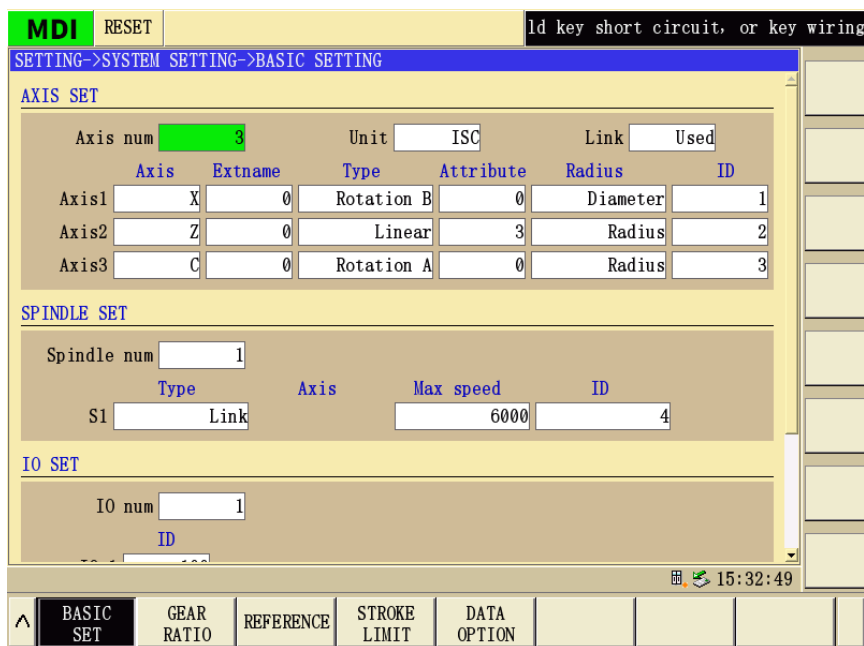

Fig. 1-34
2. Enter the debugging wizard interface, and press on the editing panel in  →  turn to enter the setting page, as shown in Fig. 1-34.